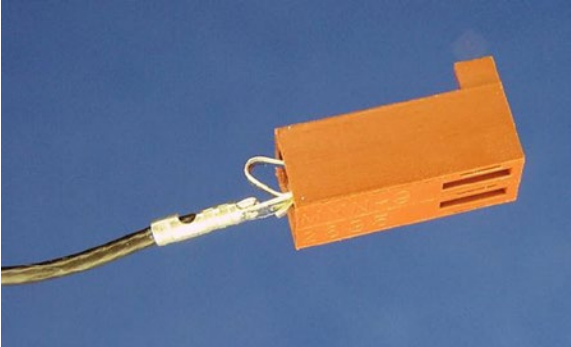

Figure 22-18. Terminal being inserted into KK housing
9. Insert the terminals into the housing with the loop facing the polarizing ribs (see Figure 22-18).